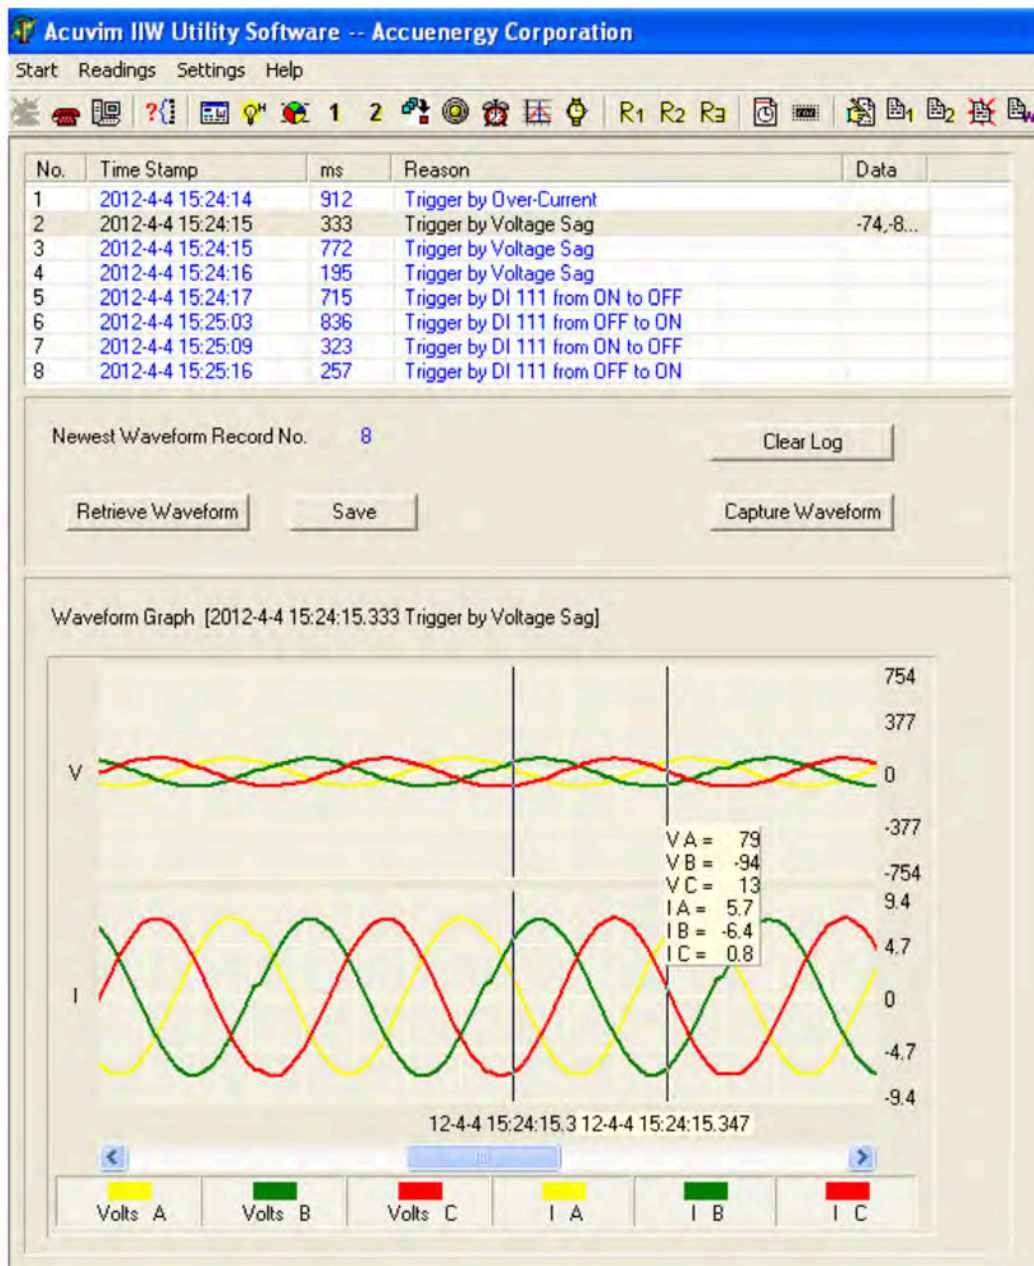

Fig. 4-14
3)100mV(Rope-CT):Real Value(Unit: A) = Waveform Value/K (firmware above 3.21,K=20291.1; firmware 3.20, K=22068.8,other: K = 15869.87); 4)mA CT:Real Value (Unit: A) = Waveform Value/K (80mA CT:K=7414.289; 100mA:K=9267.440; 200mA:K=18514.68);The voltage and current value obtained from the waveform are the PT or CT secondary side value. The waveform capture retrieve page is shown in Fig 4-14.